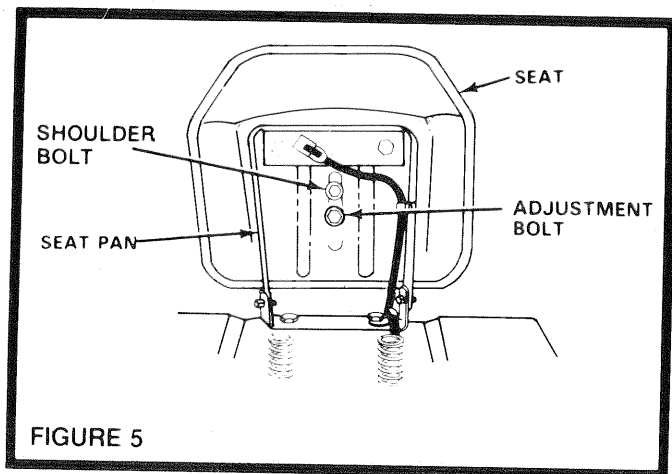

FIGURE 5
- a. Place seat on seat pan. Screw adjustment bolt, shoulder bolt, lockwasher and flat washer into seat (Fig. 5). Bolts, lock washer, and flat washer found in bag of parts. Tighten shoulder bolt securely using a 1/2" wrench. Tighten adjustment bolt finger tight. NOTE: THE SHOULDER BOLT WILL BE LOOSE IN THE SEAT PAN SLOT.
- c. To adjust, raise seat. Loosen adjustment bolt (Fig. 5) and slide seat to a comfortable operating position. Tighten adjustment bolt securely using a 3/4" wrench.
- a. Loosen the Bolts beneath the Seat (Fig. 5) and slide the seat forward or backward. Tighten Bolts securely.